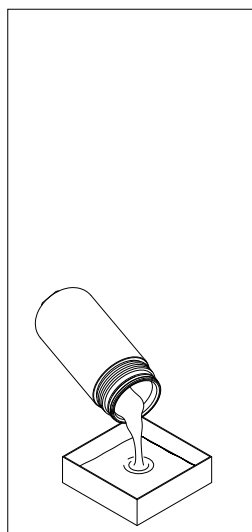

fig. 2
- (Fig. 2) Empty the operating fluid from the bowl into the collection vessel